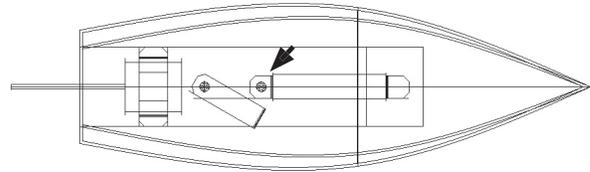

Fig. 65
Step 13. Click Copy and OK, **Fig. 65**.